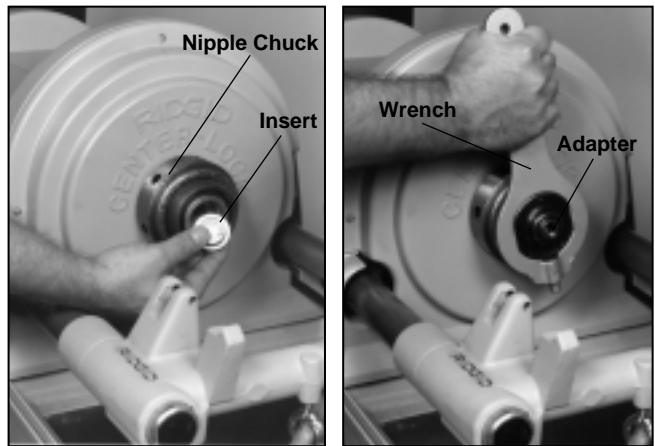

Figure 16 – Installation Insert and Adapters
2. Install No. 819 and 839 adapter (Figure 16).